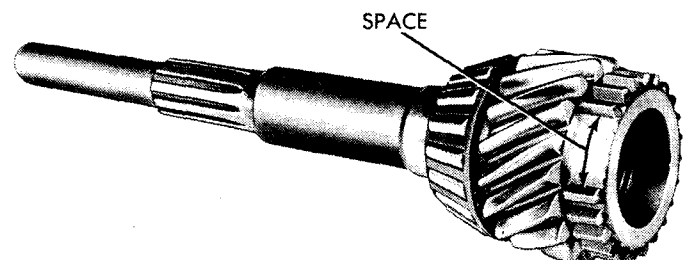

Fig. 4—Drive Pinion Gear—Showing Teeth Removed
(1) Remove drive pinion bearing retainer.
(2) Rotate the drive pinion gear to align space in pinion gear clutch teeth (Fig. 4) with countershaft drive gear teeth. Remove drive pinion gear and tapered roller bearing from transmission. (Pull on pinion shaft, rap face of case with brass hammer).
(3) Remove snap ring, washer and pilot roller bearings from recess in drive pinion gear.